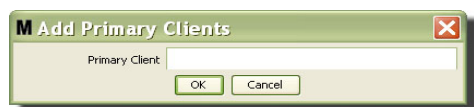

FIG. 80
5. In the Add Primary Clients box shown in FIG. 80 enter the name of the Primary Client you are adding. Click OK to close the screen and save the changes. The Primary Client's name can be anything, as long as it's unique in the system and the same name is set in the client PC's local configuration (using Matrix Properties File Editor, page 199, or the Matrix client name property). Its often convenient to use network host names, since the host name will be unique and is generally an easily remembered and typed name, but its not required.